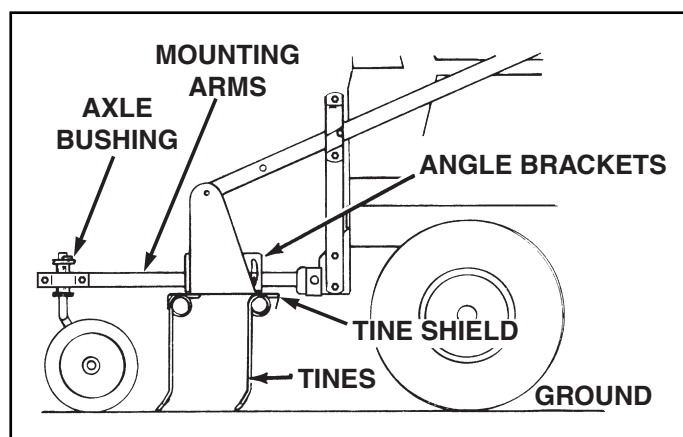

FIGURE 20
- Adjust tine shield until spring tines come in contact with level surface, keeping front and back tines at same height. Tighten mounting arm carriage bolts on top of dethatcher shield to lock adjustment. See figure 20.
- If you need more adjustment, try moving the axle bushing up or down between the mounting arms. Be sure to retighten the bolts securing the bushing. See figure 20.
- Slide a new spring tine under the locking tabs. Insert a screw driver and bend down the locking tabs until the ends of the tabs are bent down even with the surface of the tray. See figure 20.